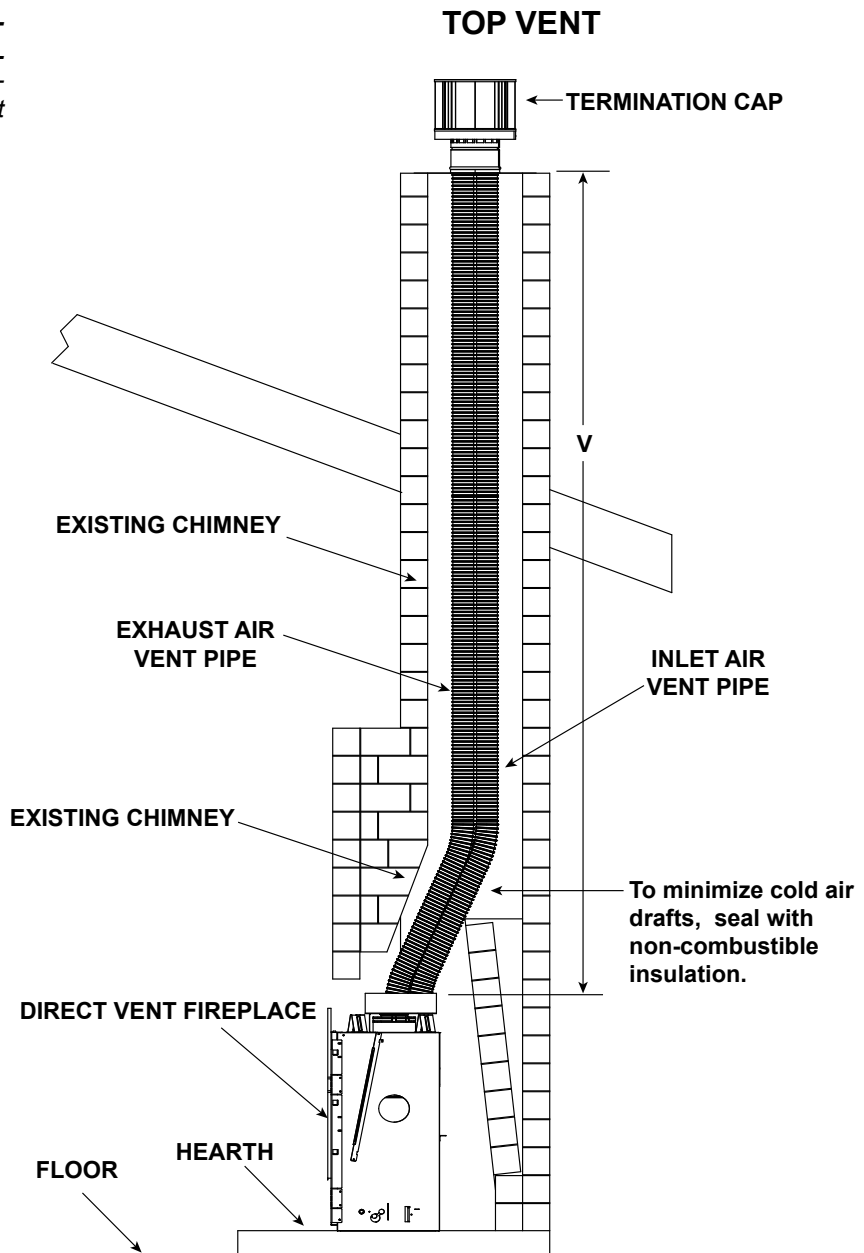

Figure 4.21
- Remove top seal cap and insulation if equipped. See Section 6, "Appliance Preparation." Attach the DV-46DVA-GCL adapter to the appliance starting collar with 3-1/2 in. self-tapping screws. See Figure 4.21.